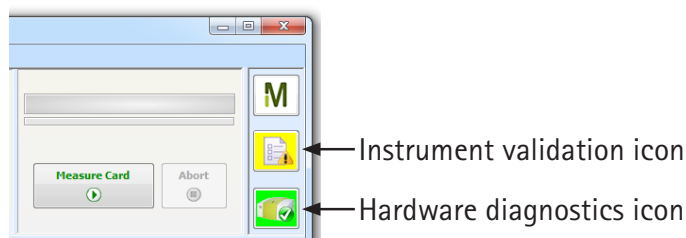

Figure 4. Hardware diagnostics icon
2. During initialization, the laser, IR source, and detector are switched on. The IR source warms up, the scanner moves forward and backward several times, and tones once. This phase takes several minutes, and the hardware diagnostics icon is yellow. After the initialization has been completed successfully, the hardware diagnostics icon turns to green, but the instrument validation icon will be yellow (Figure 4). This indicates that the PQ test has expired and needs to be run. Refer to section 12.5 for instructions on running the PQ test.